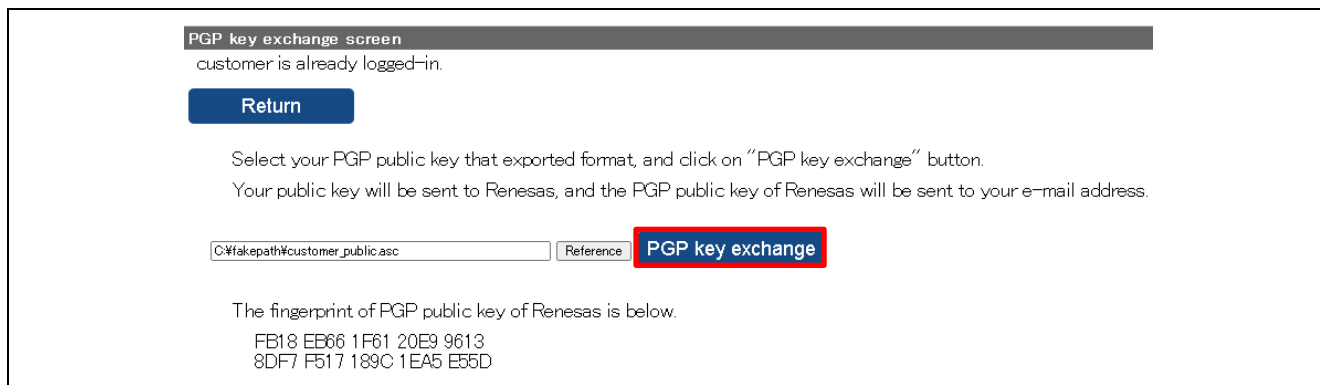

Figure 29. Exchange Keys
10. Confirm that the Fingerprint displayed is the same as what is shown on the screen represented in Figure 29. Click **Certify**.